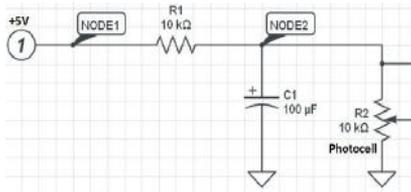

Figure 2-3. RC timing circuit with a photocell (variable resistor)
The Sunrise-Sunset Light circuit operates like the Smart Switch, except you don't have to use a mini pushbutton to start the timing function. The mini pushbutton has instead been replaced with a light sensor called a photocell. A photocell is a variable resistor that changes its resistance based on the amount of light touching its surface. Light falling on a photocell will decrease its resistance value. No light will increase its resistance value. Figure 2-3 shows the resistor-capacitor (RC) timing circuit with a photocell variable resistor symbol.